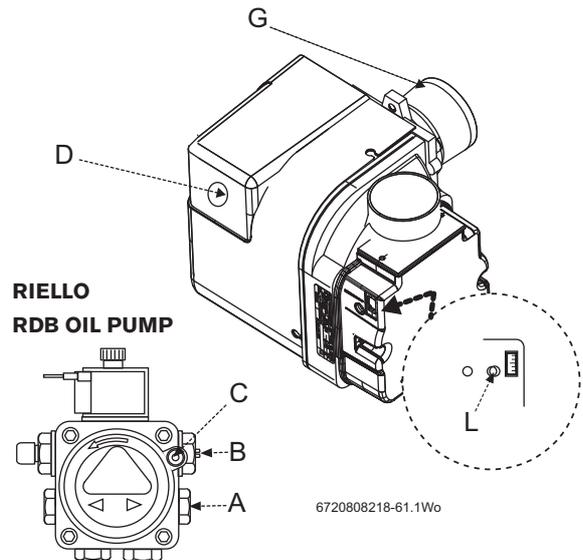

Fig. 64
- ▶ Wait 2 minutes then press the lockout reset button D (see figure 64) to initiate another start sequence.
- ▶ Check for after-spurting from the nozzle, indicated by oil saturation on the combustion head (G figure 64).